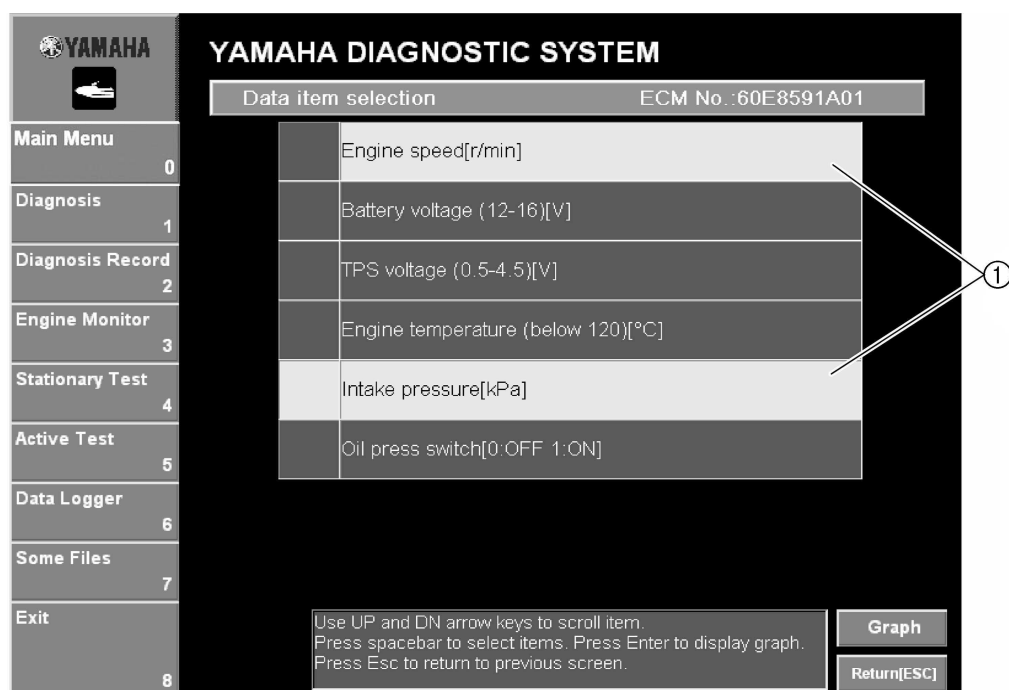

Fig. 98
3. Click the **Graph** button or press the Enter key on your keyboard. (See fig. 98.) The **Data comparison graph** window is displayed.